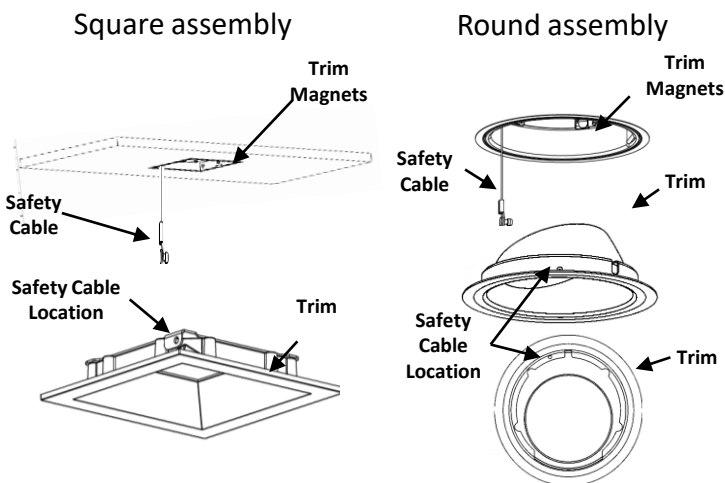

Figure 3.1
To Install Trim, attach safety cable to trim and align trim to aperture hole. Push trim into aperture opening until magnets secure trim into the assembly. Ensure safety cable does not cross over lens surface. For Pinhole trim, attach cable to trim cable end (Figure 3.1)
**Note:** When installing the trim and inserting the cable ensure that it does not interfere with the magnets. When removing the trim make sure it is vertical. (Fig. 3.1)